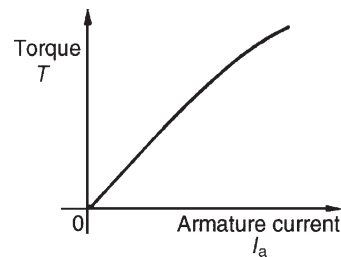

Figure 22.17
- (i) The theoretical torque/armature current characteristic can be derived from the expression  $T \propto \Phi I_a$  (see Section 22.11). For a shunt-wound motor, the field winding is connected in parallel with the armature circuit and thus the applied voltage gives a constant field current, i.e. a shunt-wound motor is a constant flux machine. Since  $\Phi$  is constant, it follows that  $T \propto I_a$ , and the characteristic is as shown in Fig. 22.17.